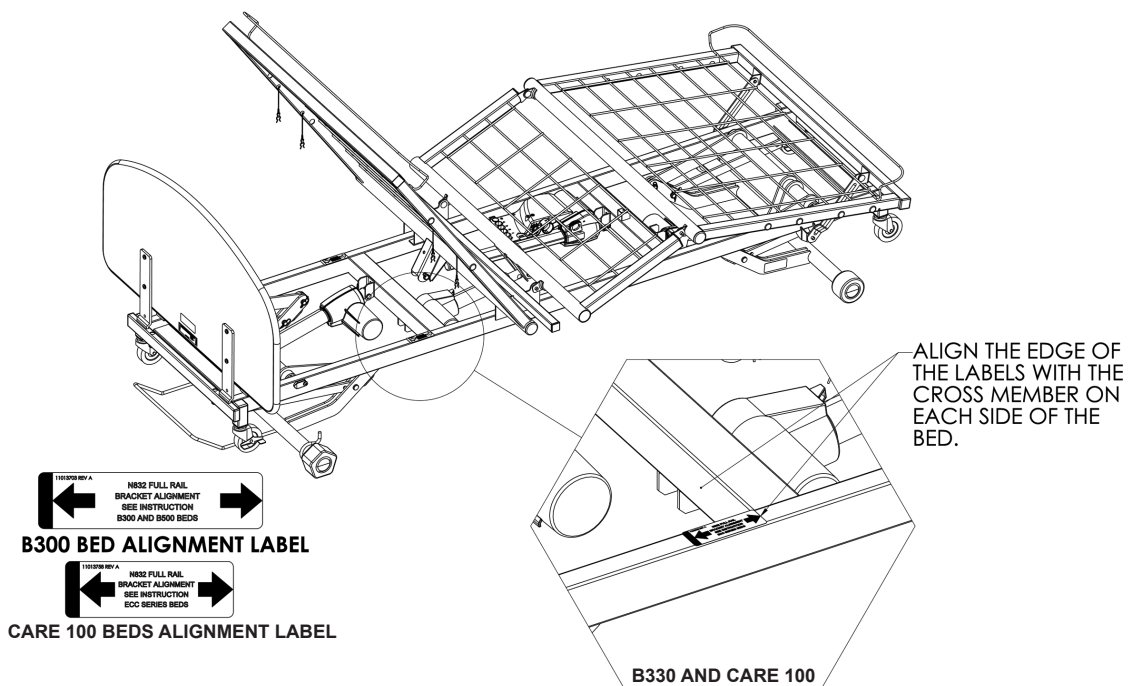
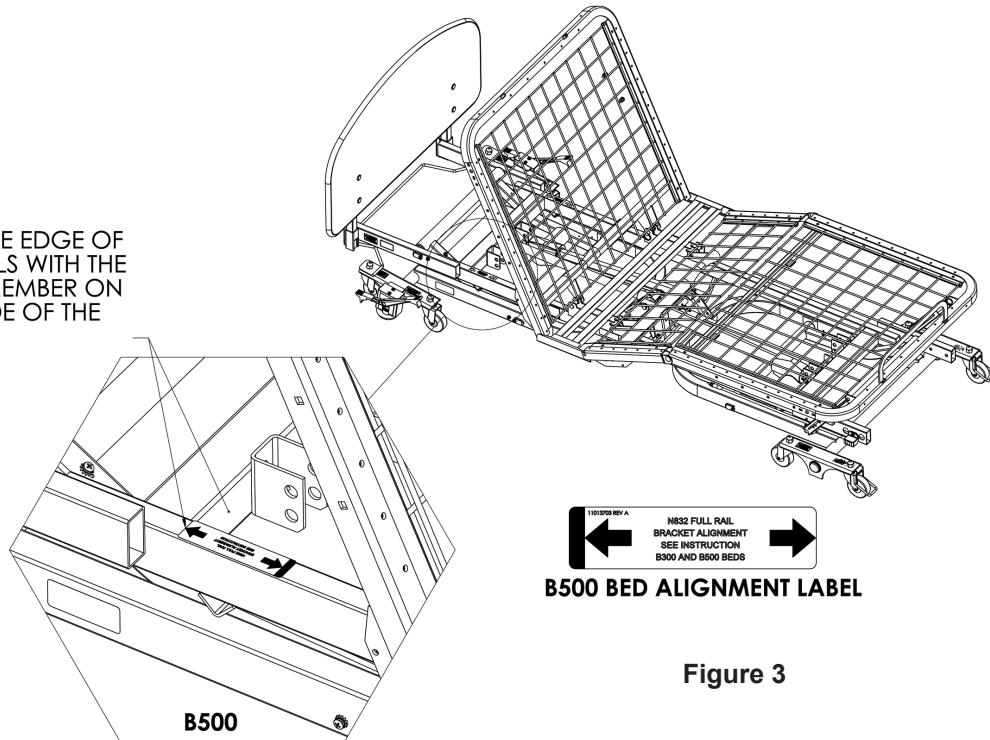

Figure 2
Figure 3
2. Depending on the bed model, locate the frame cross member at the head end of the bed frame as shown in Figures 2 and 3 (page 8). The orientation of the alignment labels will depend on bed model. If you are unsure of the bed model locate the Product ID label, usually located on the left side of the bed frame.
- Once the proper cross member has been located, locate the proper alignment labels for the model of bed you have. See Figure 2 (page 7) or Figure 3 for clarification. Apply the label according to the illustrations. When complete, there should be an alignment label on each side of the frame, aligned with the cross member located closest to the head panel.